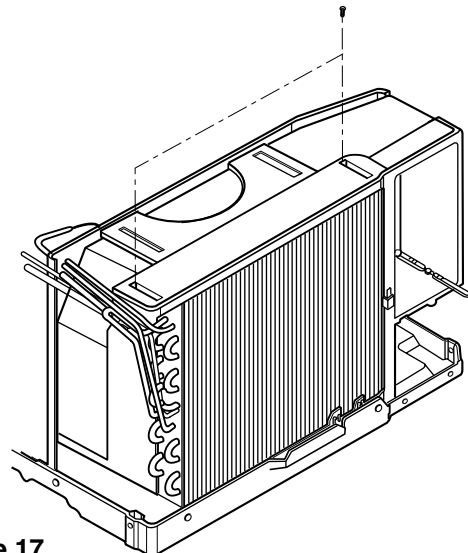

Figure 17
6. Re-install the component by referring to notes. (See Figure 17)